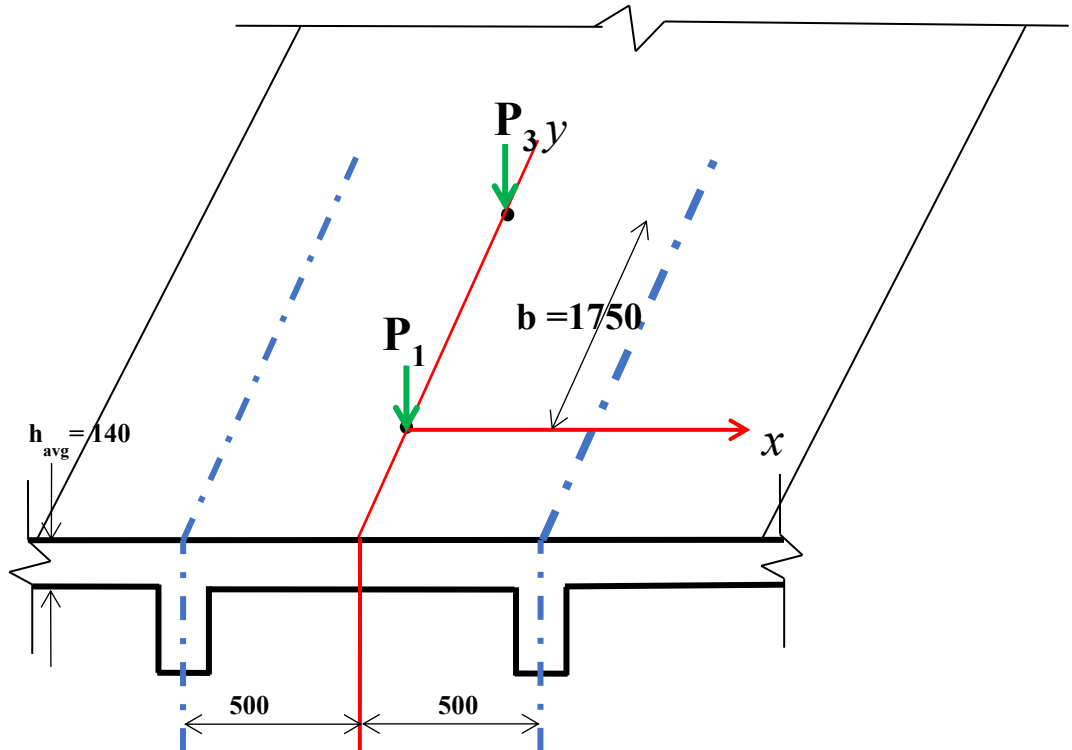

Figure 2
- (6). **Figure 2** is a cross section of a bridge deck slab. By using the Westergaard's method, Calculate: